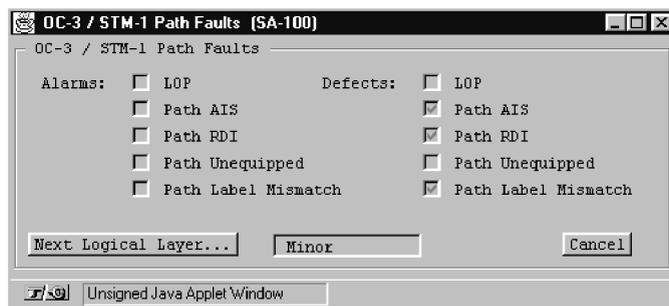

Figure 6-35. OC-3/STM-1 Path Faults Window
2. Choose the Next Logical Layer button. The OC-3/STM-1 Path Faults window appears (Figure 6-35), displaying any faults detected on the OC-3c/STM-1 path.